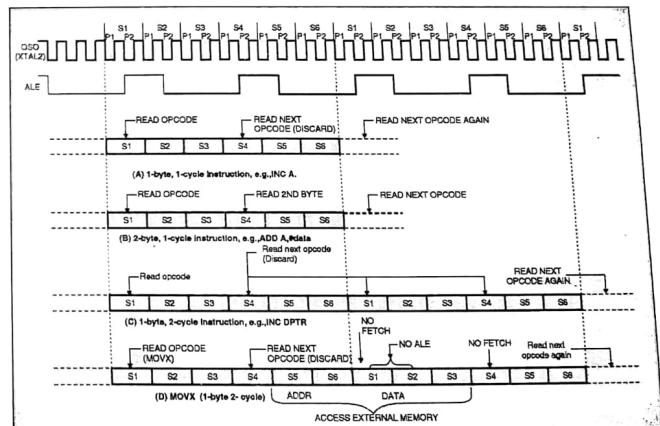

Fig. 3.2.5 : State sequence in MCS-51 device
- Each period lasts for one oscillator period. Typically, arithmetic and logical operations occur during period 1 and register to register transfers occur during period 2. Fig. 3.2.5 shows the fetch 1 execute sequence in states and phases for different instructions.
- In case of one byte two cycle instruction e.g. MOVX. The MOVX instruction accesses external data memory. Two fetches are skipped while the external data memory is being addressed and strobed. Fig. 3.2.5 shows the timing diagram.